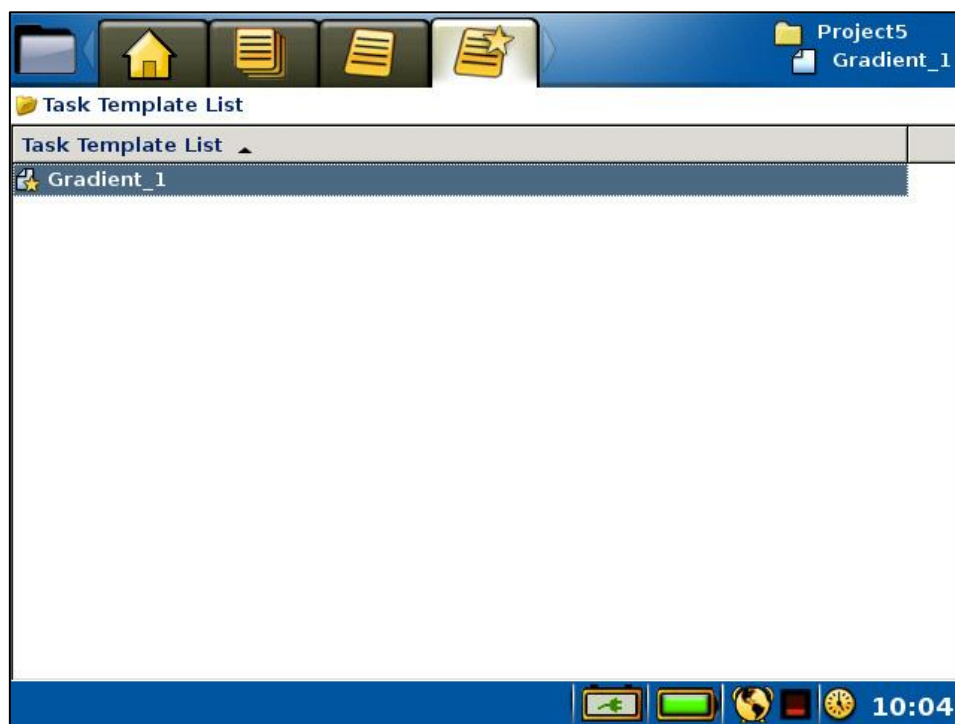
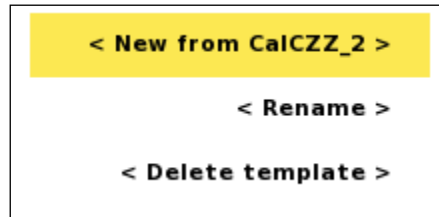

Figure 26 Task Templates Page
Figure 27 Template Option menu with the "New from" item highlighted
Templates are managed in the “Projects/Task Templates” Page (Figure 26), and have an option menu associated with them for administration (Figure 27).
- Press <Options> and the option menu of Figure 27 will be shown